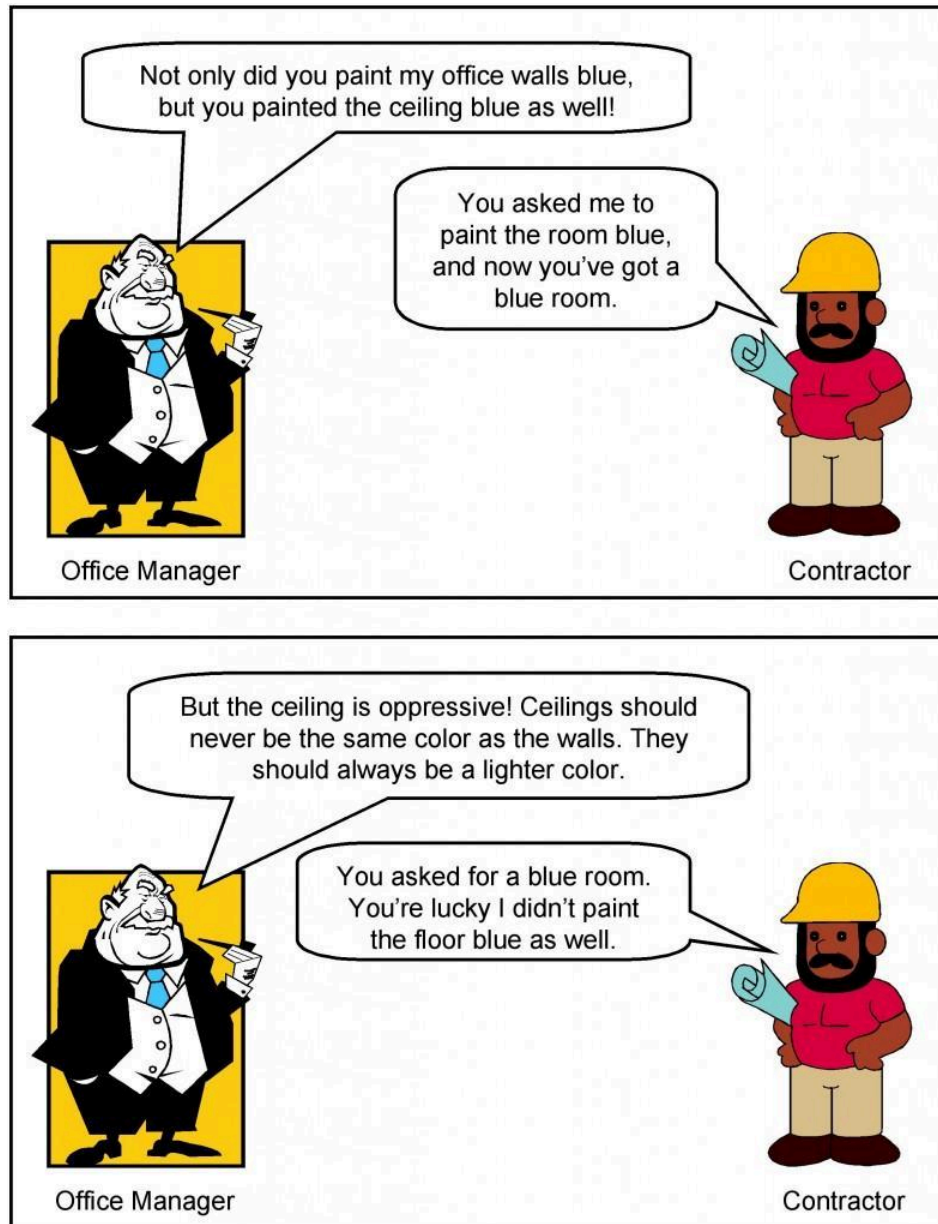

Figure 6.2: The consequence of not making your objective clear. [Image Description]
Imagine an office manager has contracted a painter to paint his office. His goal or objective is to have the office painted a pleasing blue color. Consider the conversation that occurs in Figure 6.2² after the job was finished.
2. Figure 6.2: The consequence of not making your objective clear. Illustration from Barron & Barron Project Management for Scientists and Engineers, <http://cnx.org/content/col11120/1.4/>